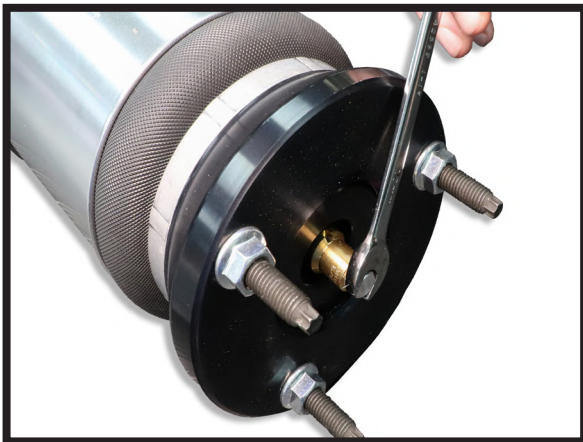

FIGURE 19
1. REMOVE SHIPPING PLUG FROM CHECK VALVE AND DISPOSE. INSTALL ARNOTT PROVIDED AIR FITTING AND TIGHTEN SNUGLY. REMOVE THE SHIPPING PIN FROM THE AIR FITTING AND DISPOSE. USE THE FIGURES BELOW AS AN EXAMPLE. (FIGURES 19, 20, 21, 22)